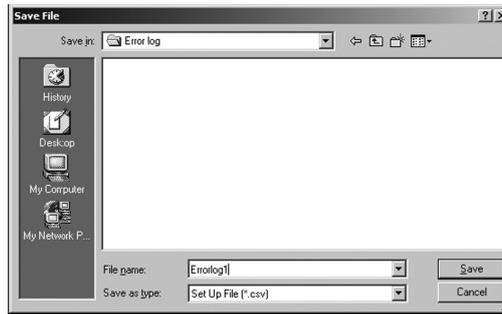

Fig.146
- ④ Click the "OK" button again to display the last 64 entries in the log corresponding to the "Input address".
- ⑤ "Current address" shows the address of the most recent log entry. To display the most recent log entry, input the "Current address" value into "Input address", or input "3000H". To display past log entries, input values by subtracting "200H" at a time from "Current address".
- ⑥ It is also possible to save a log to a file here. Click the "Save" button to display Fig. 146, specify the save location and file name, and then click "OK" to create a CSV file, completing the save process.